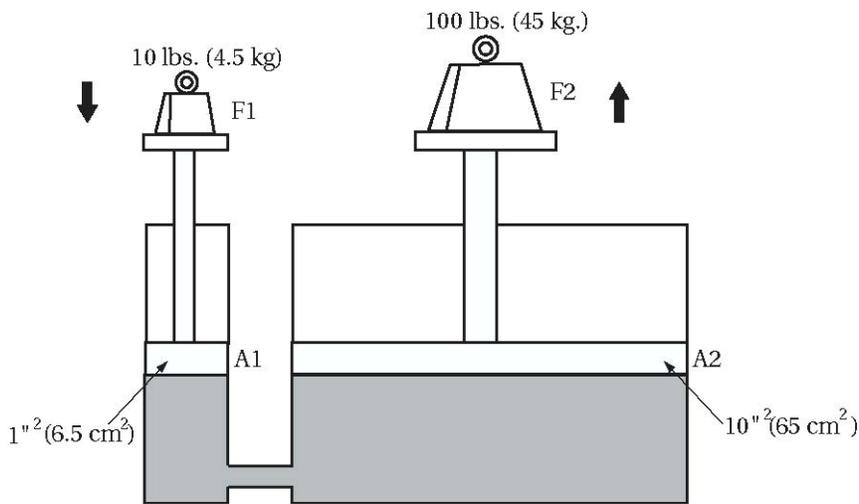

Figure 1-5 *Mechanical Advantage*
5. Mechanical advantage is demonstrated in Figure 1-5 and as stated earlier, is one of the main reasons for the use of hydraulics. **A FORCE OF 10 LBS. (4.5KG). (F1) IS BEING APPLIED TO A 1 SQUARE INCH PISTON (6.5CM²) (A1). THE FLUID PRESSURE OF 10 POUNDS PER SQUARE INCH (PSI) (69KPA) IN THE ENCLOSED SYSTEM IS THE SAME THROUGHOUT THE ENCLOSED SYSTEM.** (Pascal’s Law) Piston A2 is 10 square inches (65cm²), therefore, 10 PSI x 10sq. inches = 100 lbs. of force (69kPa x 65cm² = 45kg) at F2. We will show how the math is done later. The main thing here is to realize that we applied or “put in” a force of 10 lbs. (4.5kg) and received or “got out” a force of 100 lbs. (45kg). This is the mechanical advantage and basically explains how a hydraulic jack works.